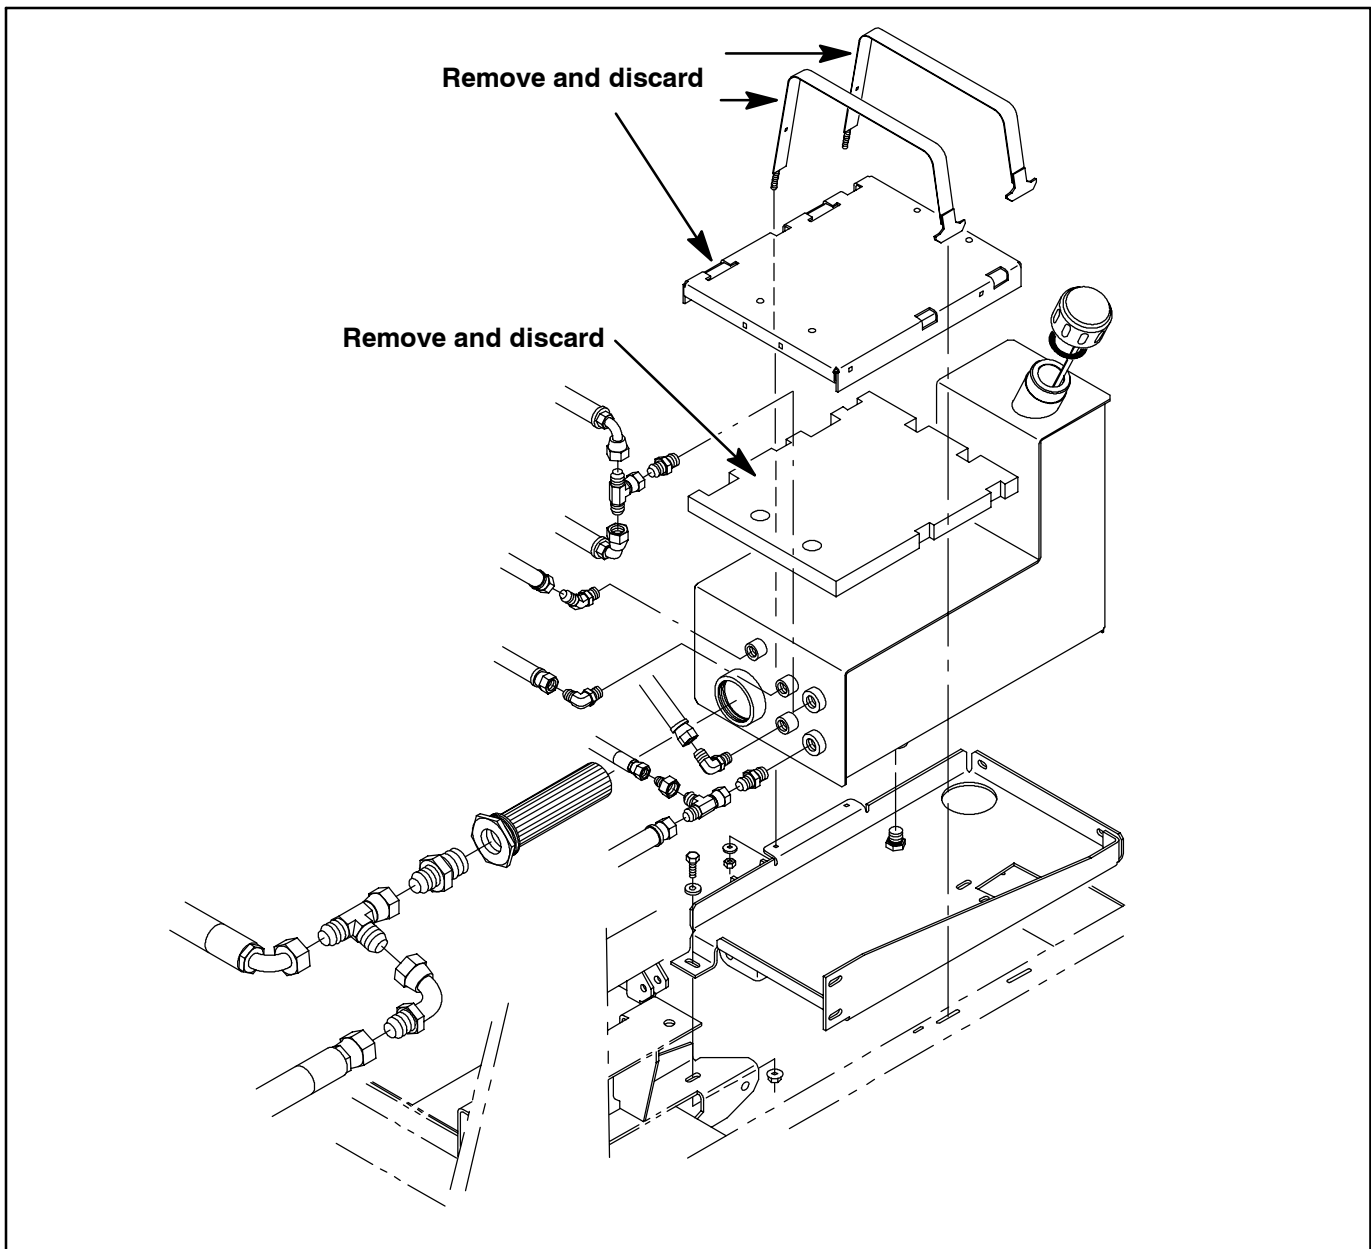

FIG. 4-Hydraulic Reservoir Group
5. Remove the old hydraulic reservoir holding straps, base channel, and thermal insulation. (Refer to FIG. 4)